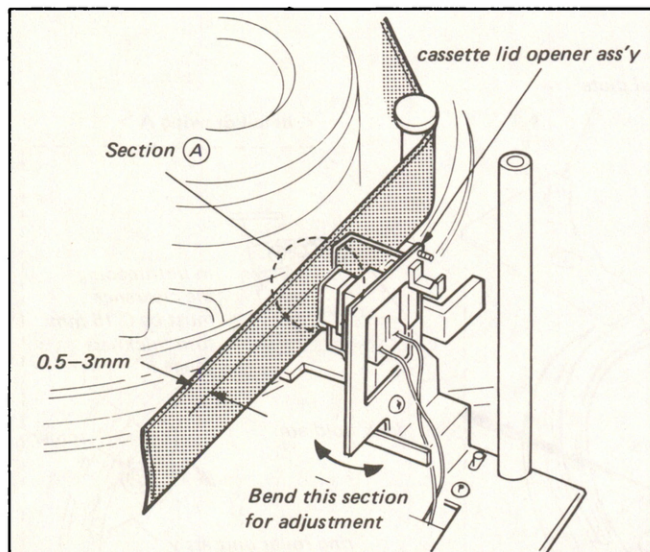

Fig. 3-24. Position adjustment of cassette lid opener metal (1)
- (i) The plate of the cassette lid opener bracket must be near the center of the slot in the white plastic holder guide when the cassette lift assembly is lowered. If it is not in this position, bend the lower section of the cassette lid opener bracket, as shown in Fig. 3-24. for adjustment.
- (ii) Confirm that section (A) in Fig. 3-24 satisfies the specification (0.5mm to 3mm) when the cassette is inserted and the PLAY mode is set up. This is the spacing between the tape and the take-up sensor.